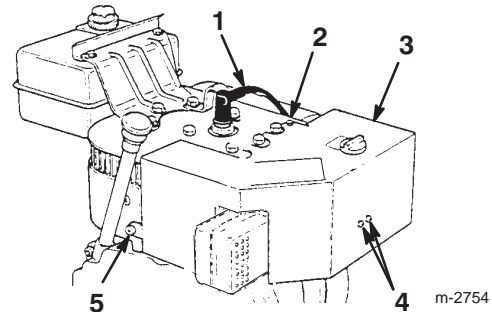

Figure 16
If you operate the engine when the air temperature is above 40°F (4°C), remove the carburetor heater box (Fig. 16).
1. Disconnect the wire from the spark plug and ensure that the wire does not contact the plug (Fig. 16).
4. Remove the fasteners that secure the carburetor heater box in place (Fig. 16).